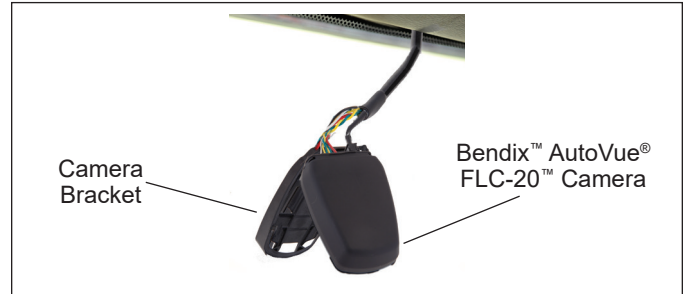

Figure 4 – Bendix™ AutoVue® FLC-20™ Camera & Bracket
- The forward-facing camera may track the lane markers and provide the lane characteristics for the left and right marker to the Steering Assist System over the vehicle communication network. In addition, the system also may provide information on when the lane departure warnings will be suppressed, allowing the Lane Keep Assist (LKA) feature to be suppressed at the same time. See Figure 4.
- The properly mounted windshield bracket holds the camera secure and keeps it facing the correct direction to help to successfully determine lane width and position. See Figure 4.